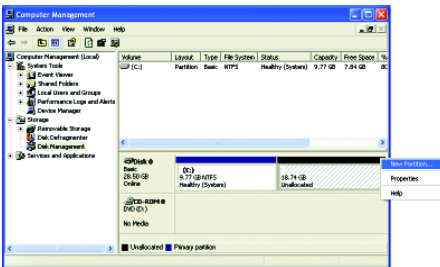

Figure 6
5. If your hard drive is not properly partitioned before you install the operating system, you may create new partitions using free space on your hard drive (Figure 6, 7). However, if **Disk Management** shows the hard drive only contains the System partition without any unallocated space, you will not be able to create new partitions or use Xpress Recovery2. If this occurs, reinstall the operating system and re-partition your hard drive.